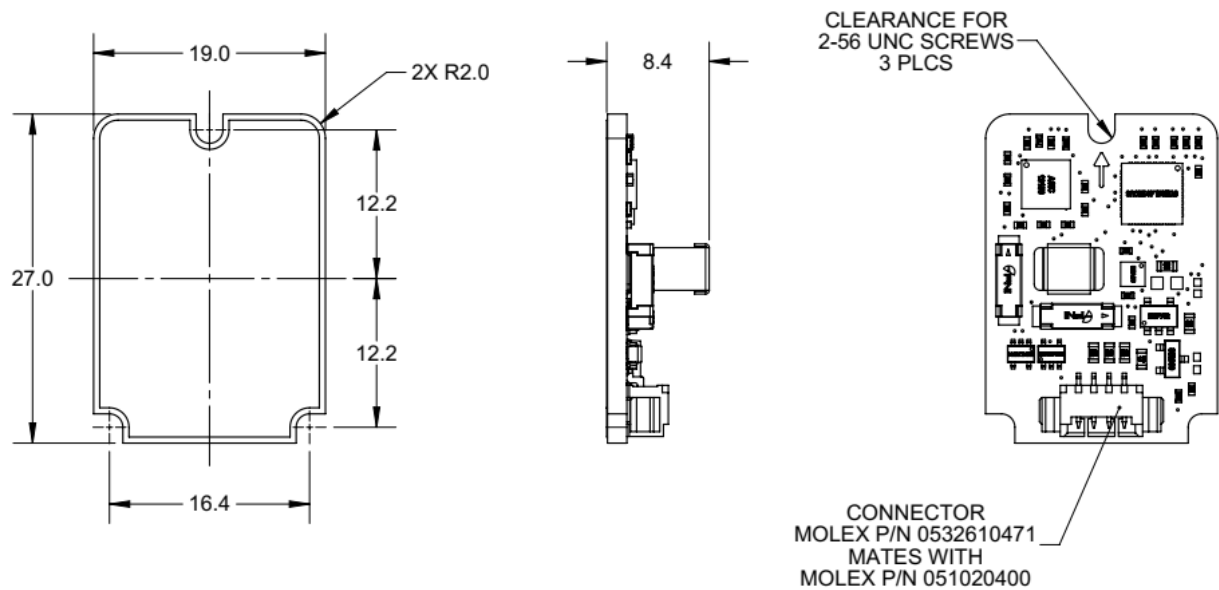

Figure 3-2: Prime Pro Mechanical Drawing
1. Pin #1 is the left most position of the connector as indicated on Figure 3-2